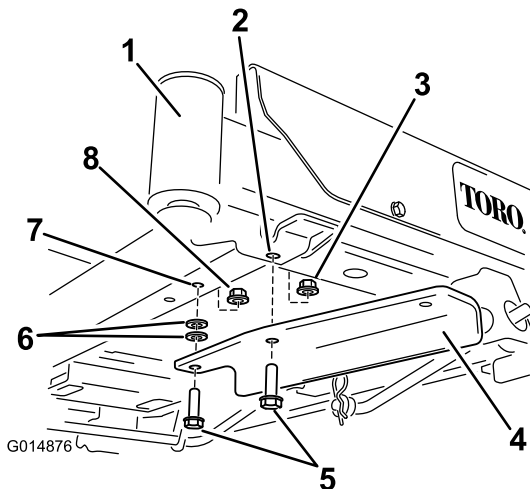

Figure 6
- For machines without a foot-assist lift pedal, secure the bracket using 2 bolts (3/8 x 1-1/4 inches), 2 washers and 2 locknuts (3/8 inch) (Figure 6).